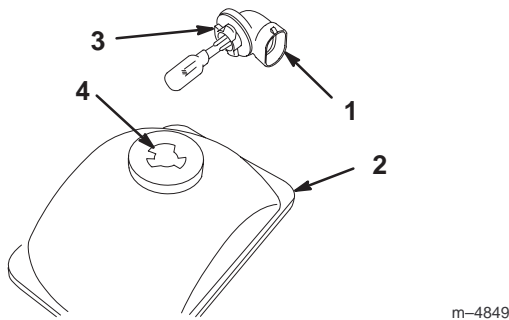

Figure 33
2. Reach beneath the dash and rotate the lamp assembly 1/4 turn counterclockwise (Fig. 33). Pull the lamp assembly out of the reflector.
5. Reach beneath the dash and align the three tabs on the lamp assembly with the slots in the reflector (Fig. 33). Insert the lamp assembly into the reflector and rotate it 1/4 turn clockwise until it stops.